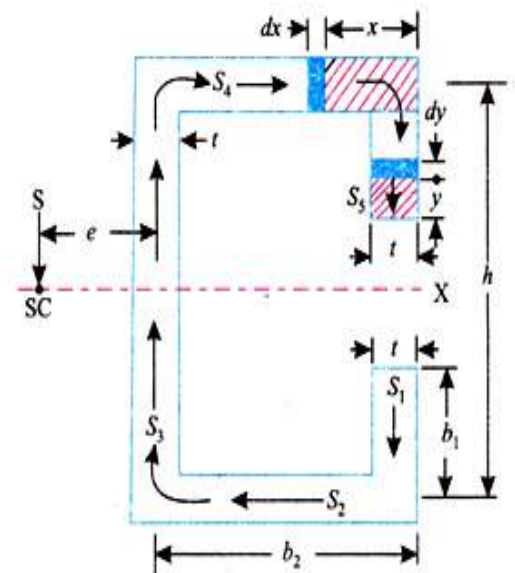

Figure 3
5. Find the shear centre of the section shown in Figure 3.